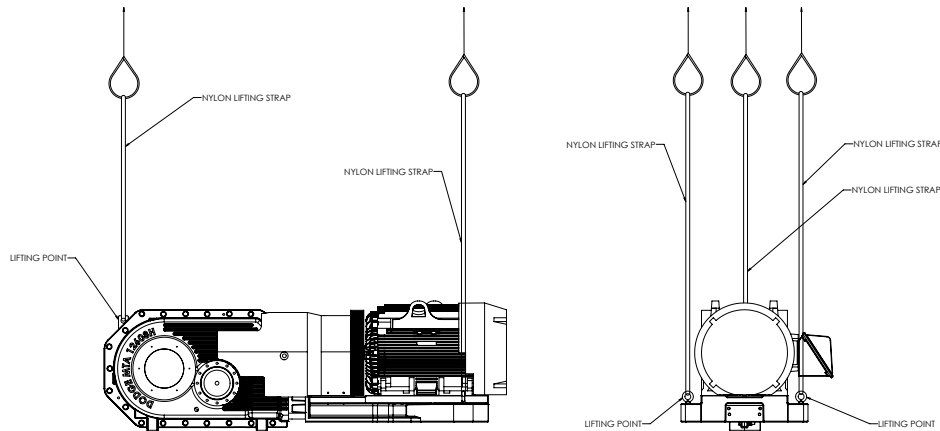

Figure 5 - MTA with Foot-Mounted Motor Lifting Points
1. Use lift-assist equipment to lift the reducer using the lifting points indicated in Figure 5.